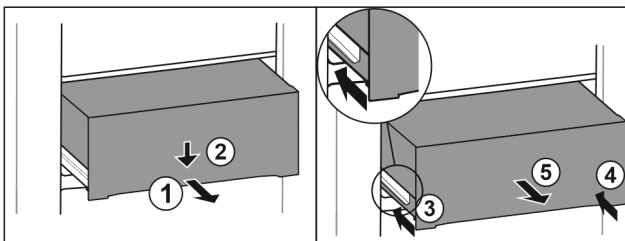

Fig. 130
- ▶ Pull out drawer half-way. Fig. 130 (1)
- ▶ Push the drawer down at the front. Fig. 130 (2)
- ▶ Push the left rail in by about 2 cm. Fig. 130 (3)
- ▶ Push the right rail in by about 2 cm. Fig. 130 (4)
- ▶ Remove drawer to the front. Fig. 130 (5)